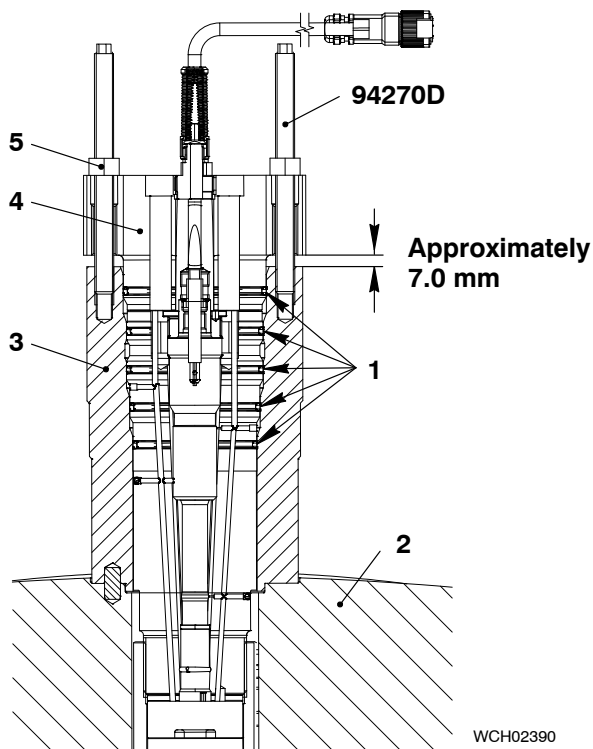

Fig. 2
- 3) Do a check of the condition of the sealing face in the cylinder cover (2, Fig. 2). If necessary, do the procedure given in 2708-3.
- 4) Put oil on the five new O-rings (1).
**Note: The five O-rings (1) are included in the spare parts set for the injection valve.**
- 5) Put the five O-rings (1) in their correct positions on the injection valve (4).
- 6) Carefully put the injection valve (4) into the valve bush (3).
- 7) Turn the two stud bolts (94270D) into the valve bush (3) as shown.
- 8) Turn equally the two nuts (5) to push the injection valve into the valve bush (3).